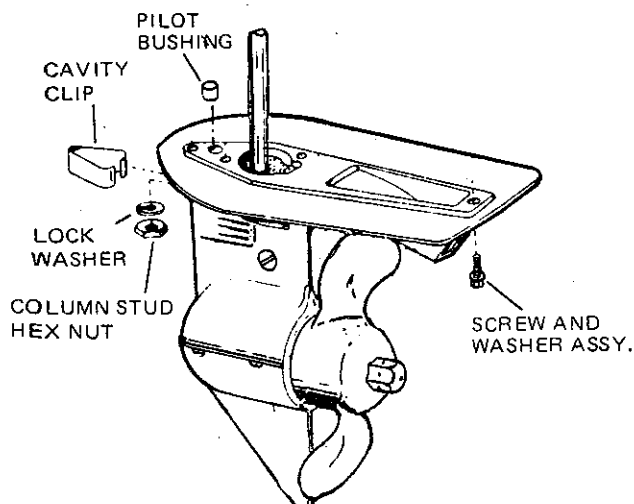

Figure 1. Unscrew stud hex nut.
- A. Use a 3/8-inch socket wrench to remove the screw and washer assembly (Figure 1).